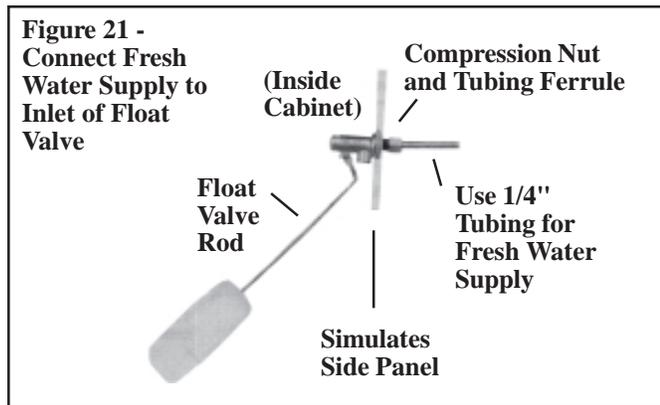

Figure 21 - Connect Fresh Water Supply to Inlet of Float Valve
Float Valve (Figure 21) - In a module with pump and float controls, a float valve maintains the appropriate water level in the reservoir.
Use a field-supplied 1/4" diameter tubing with a compression nut and tubing ferrule to connect the fresh water supply to the inlet of the float valve. See Figure 21. Place nut and ferrule over tubing and insert tubing into the float valve stem. Tighten nut securely.
-- Turn on the water supply. Check for good flow. When the float valve (Figure 21) shuts off the water supply, measure the water depth. The depth of the water should be approximately 3". It may be necessary to adjust the float valve to obtain the proper water level or to free the float valve from obstructions. To adjust the float valve, simply bend the rod upward to raise the water level or downward to decrease the water level.